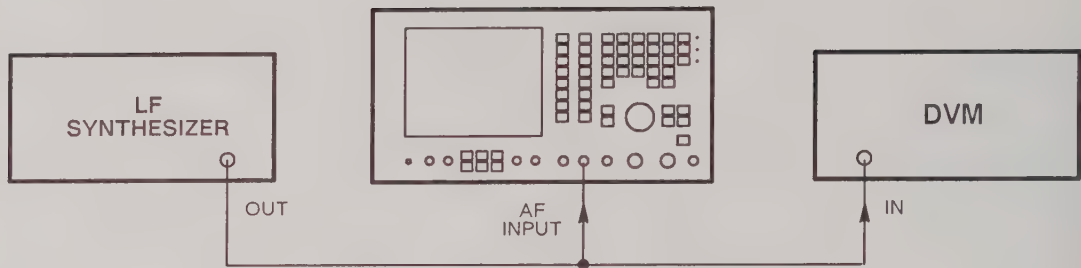

Fig. 6-11 Test equipment connections for AF frequency meter frequency and sensitivity
- Connect the LF synthesizer 1 MHz standard output to the EXT STD 1 MHz socket. Connect the LF synthesizer variable output to the AF INPUT socket. See Fig. 6-11.